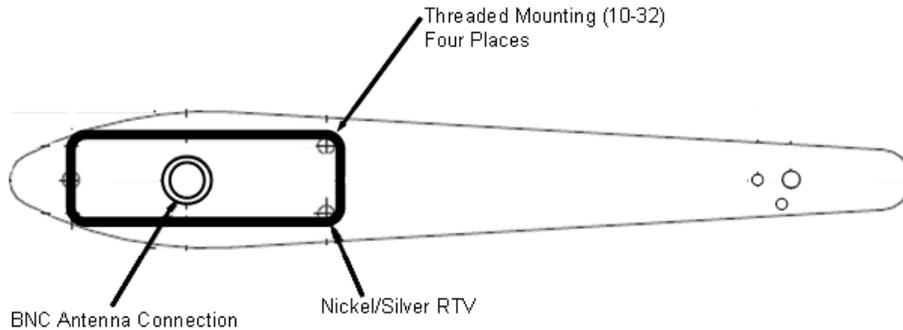

Figure 34-47 Marker Beacon Antenna Conductive Sealant
8. Apply a bead of electrically conductive, MMS-040 Silver Coated Nickel Electrically Conductive RTV Silicone (Moreau Marketing & Sales, [http://http://www.rmoreau.com](http://www.rmoreau.com)) along the inner edge of the gelcoat/carbon interface, taking care to stay a safe distance from the antenna cable hole. The goal here is to apply just enough RTV to get good contact between the antenna base and the carbon, but not so much that the RTV creeps out from under the antenna base when the antenna is installed. See Figure 34-47 for details of the location for the RTV sealant.